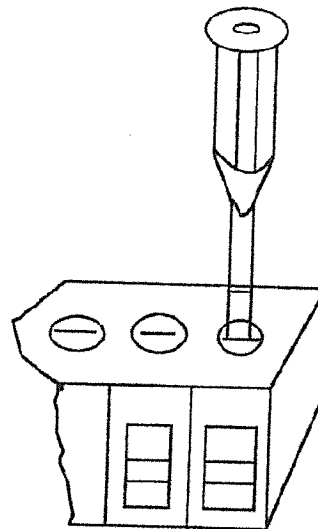

Figure 5
- (2) As shown in Figure 5, insert the tip of a lead wire into the terminal and tighten the screw from above with a flat-head screwdriver (we recommended using a screwdriver with a shaft diameter of 3 mm and a blade width of 2.6 mm). Securely tighten the screw so that the lead wire will not come loose.